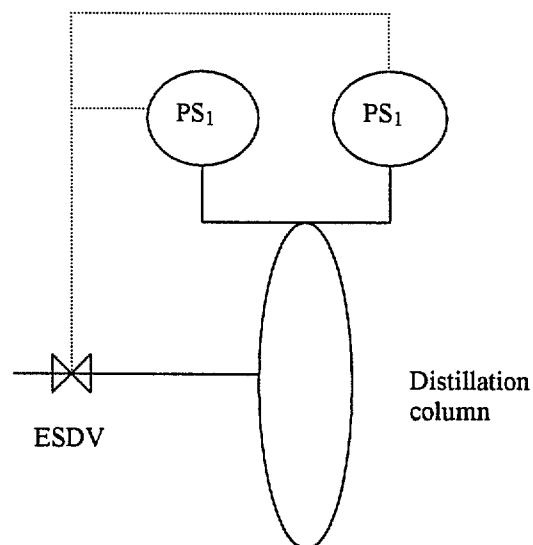

Figure 1. Schematic representation of a distillation column protected by two pressure switches.
- d) Figure 1 shows a process and instrumentation flow diagram for a distillation column protected by two pressure switches (PS₁ and PS₂) operating on an emergency shutdown valve (ESDV). Using the data below, calculate the total availability for the system assuming that the pressure switches respond on a 2002 voting system. [9]